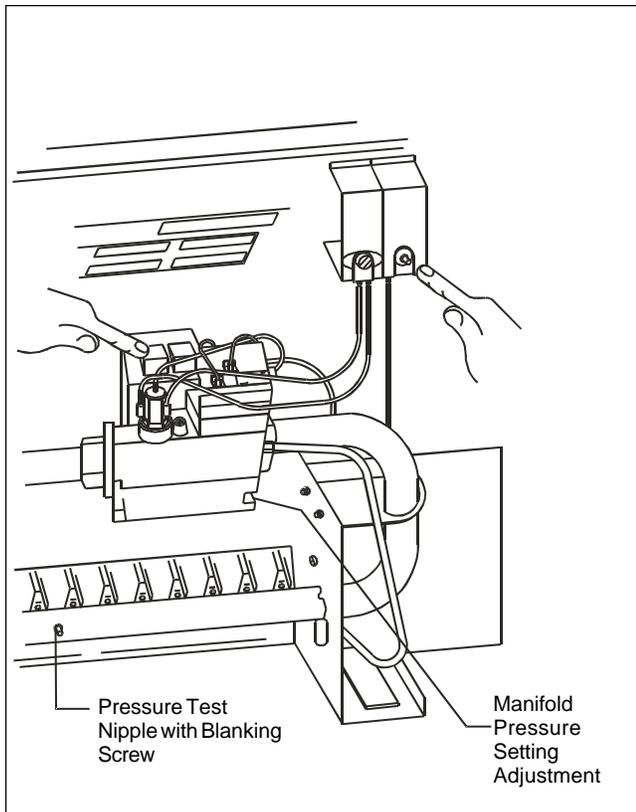

Figure 18. Lighting the pilot.
At the same time repeatedly push the button of the ignitor (see Figure 18) to produce a spark at the pilot burner. When the pilot has lit, keep the button on the gas valve fully pushed in for another 30 seconds.
4. Remove the blanking screw in the manifold (burner) setting pressure test nipple (see Figure 18) and securely connect a suitable gas pressure gauge.